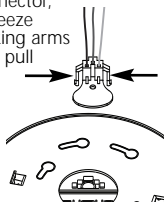
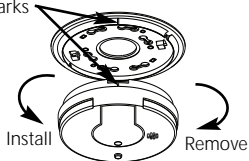

FIGURE 6
FIGURE 7
5. Plug the AC QUICK CONNECTOR into the back of the alarm (see figure 6), making sure that the locks on the connector snap into place. Then push the excess wire back into the electrical box through the hole in the center of the trim ring.
6. If you have finished all the WIRING, BATTERY INSTALLATION AND TRIM RING MOUNTING STEPS, you can install the alarm on the trim ring. Alignment marks are provided on the side of the alarm and on the trim ring (see figure 7).
7. Install the alarm on the trim ring with the indicating marks aligned and rotate the alarm in the direction of the "ON" arrow on the cover until the alarm snaps in place (see figure 7).
To replace the batteries or the lamp (models i12040 and i12080 only), remove the alarm from the trim ring by rotating the alarm in the direction of the "OFF" arrow on the cover (see section 3, figure 7). To disconnect the AC power harness, squeeze the locking arms on the sides of the Quick Connector while pulling the connector away from the bottom of the alarm (see section 3, figure 6).